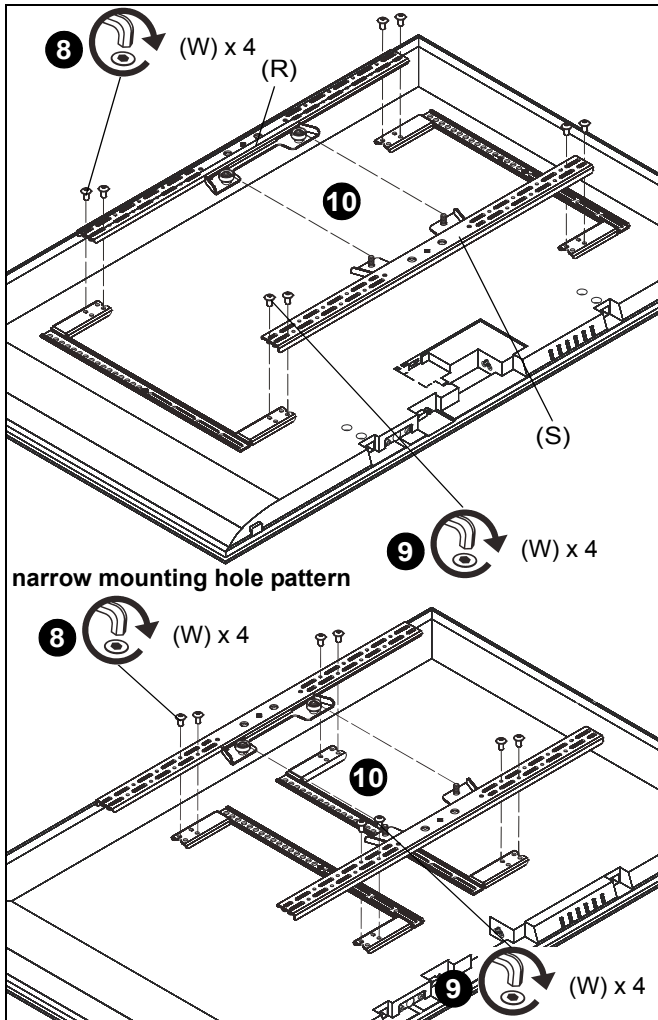

Figure 14
8. Connect top interface support (R) to uprights (P and Q) using four #10-24 x 1/2" button head cap screws (W). (See Figure 14)
9. Connect bottom interface support (S) to uprights (P and Q) using four #10-24 x 1/2" button head cap screws (W). (See Figure 14)
10. When connecting bottom interface support (S) to uprights, make sure that it is aligned vertically with top interface support (R). (See Figure 14)